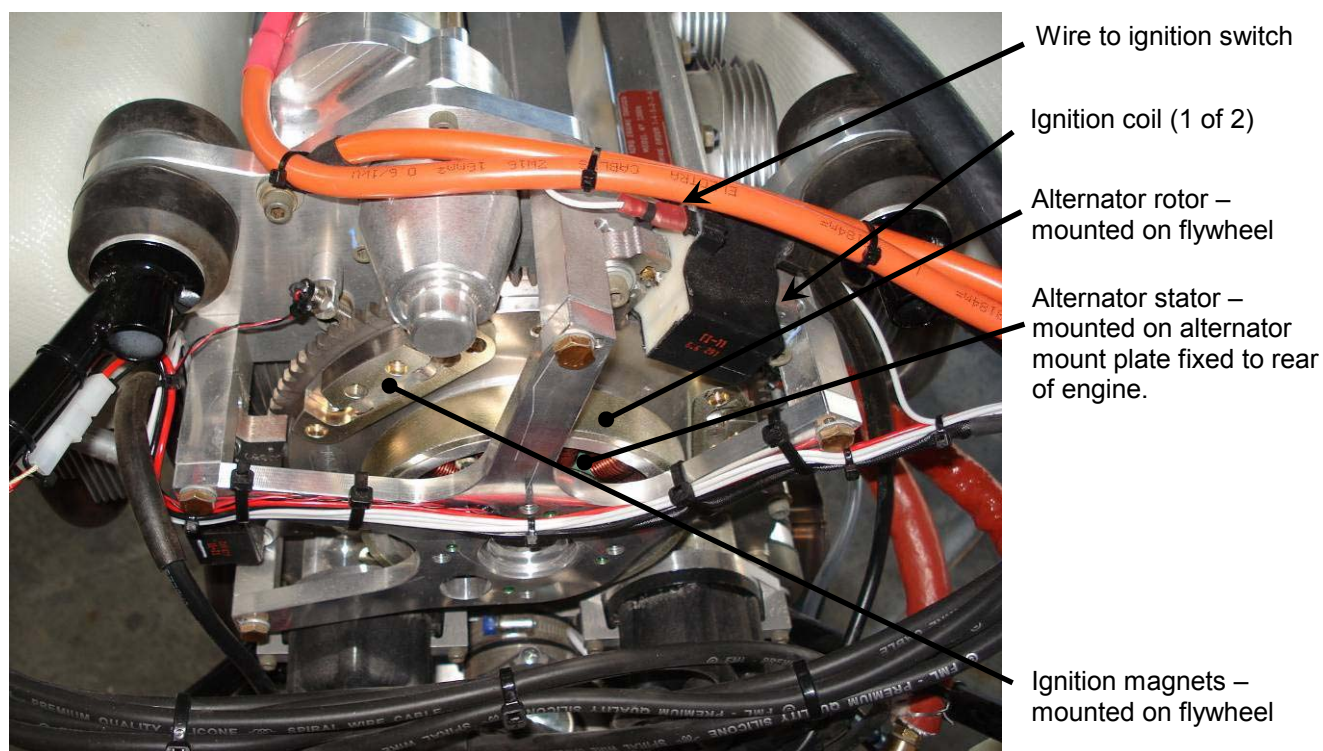

Figure 8. Ignition & Alternator Detail
- The ignition unit has dual breakerless transistorised ignition with the magnets mounted on the flywheel and the coils mounted on the alternator mount plate. Figure 8 shows the coils of a Jabiru engine, however the position of the coils and the magnets on the flywheel are slightly different for the 5100 engine.
- When installing new ignition coils the output leads go in the direction of prop rotation – See Figure 8.